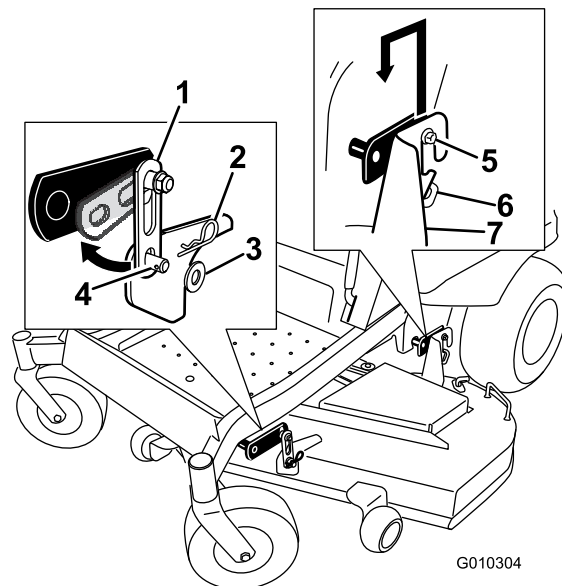

Figure 70
2. Remove the hardware from the front deck hangers on both sides of the deck (Figure 70).
3. Carefully lift the deck off the rear hanger bolts and lower the front of the mower deck to the ground (Figure 70).
5. Lift the rear of the mower deck and guide the hanger brackets over the rear hanger bolts (Figure 70).
6. Attach the front support on the mower deck to the front deck hangers and secure them with a washer and hairpin cotter (Figure 70).